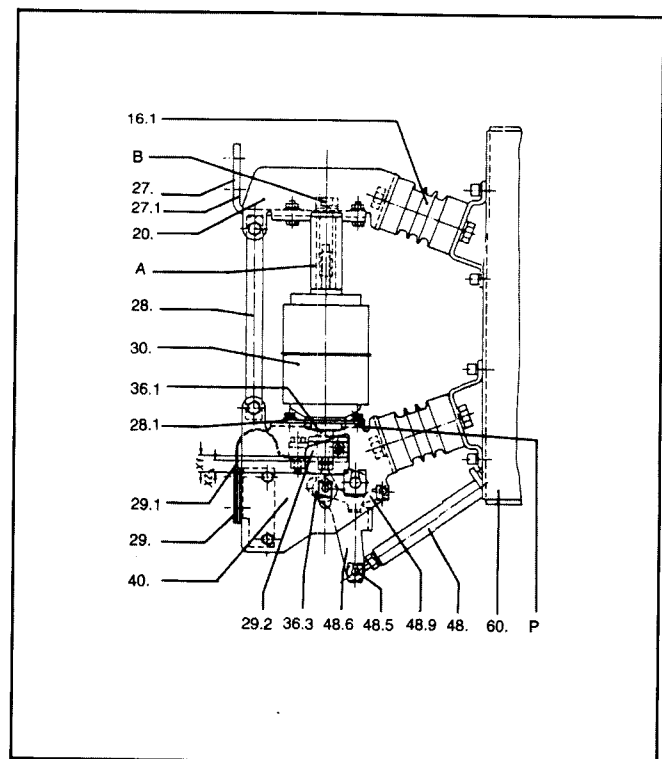

Figure 7. Section Through the Typical Vacuum Breakers
When the contacts separate, the current to be interrupted initiates an ionized metal vapor arc discharge and flows through this plasma until the next current zero. The arc is then extinguished and the conductive metal vapor condenses on the metal surfaces of the arching chamber, (33), (Fig. 7) within a matter of micro-seconds. As a result, the dielectric strength in the increasing contact gap builds up very rapidly.